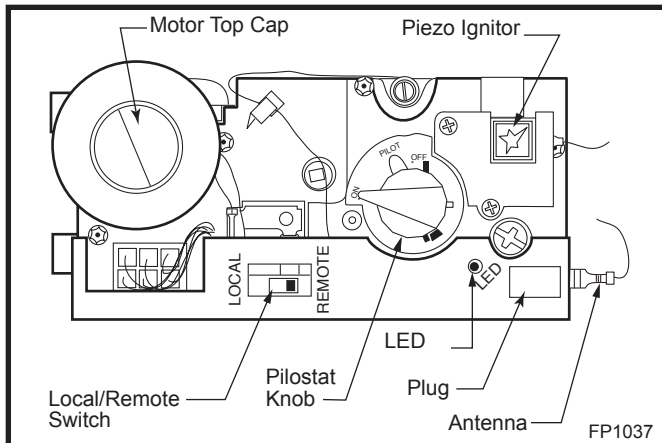

Fig. 56 Comfort control valve.
1. If the manual switch is in remote position, switch it to LOCAL. (Fig. 56)